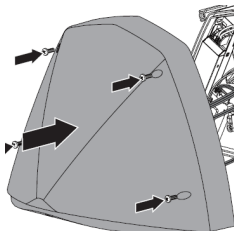

Fig. 7
- Refasten the cover (see Fig. 7)